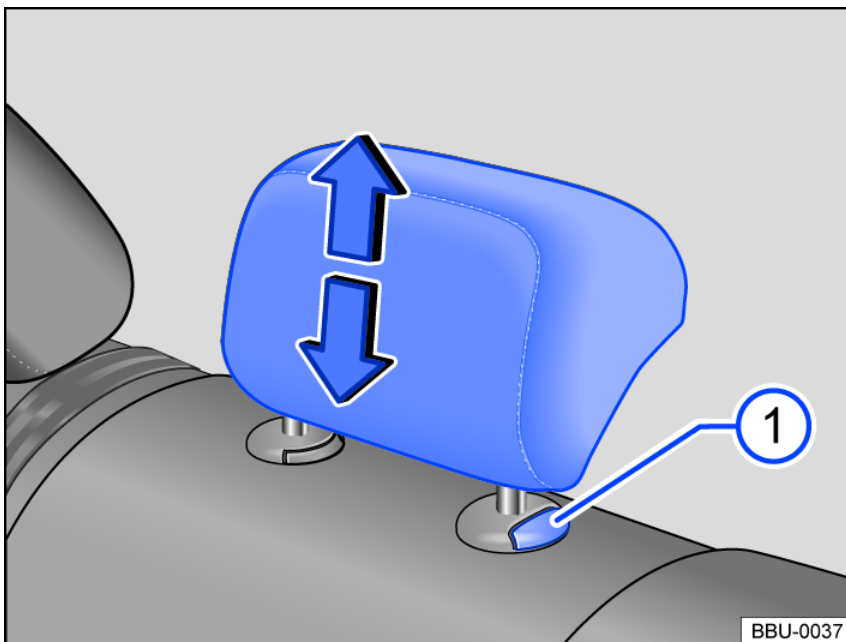

Fig. 73 Rear center head restraint: adjust.
- If necessary, slide the head restraint upward or downward in the direction of the arrow and when pressing the fig. 73 ⓘ button.